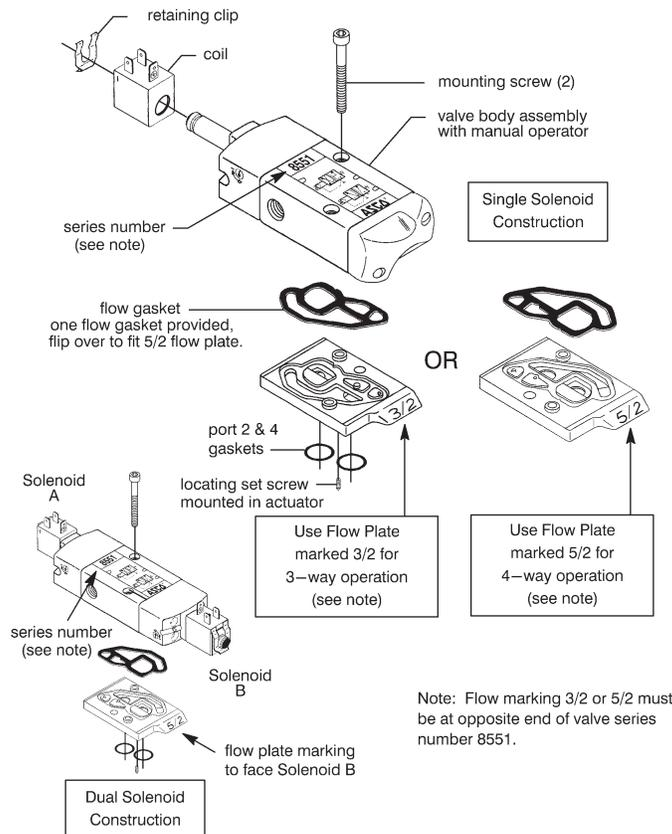

Figure 3. Series 8551 Direct Mount Versions shown with prefix SC coil and Two Flow plates.
- Two Flow plates:** (Refer to Figure 3)
Flow plates are marked (3/2) for 3-way or (5/2) for 4-way. For proper orientation of the flow plate, the marking (3/2) or (5/2) must be opposite series number 8551 flow diagram label on valve body or facing solenoid "B" for dual solenoid construction. See Figure 3, for proper orientation of flow plate, gaskets, mounting screws and locating set screw. Then proceed as follows:
Coil Replacement (Refer to Figures 3 and 4)